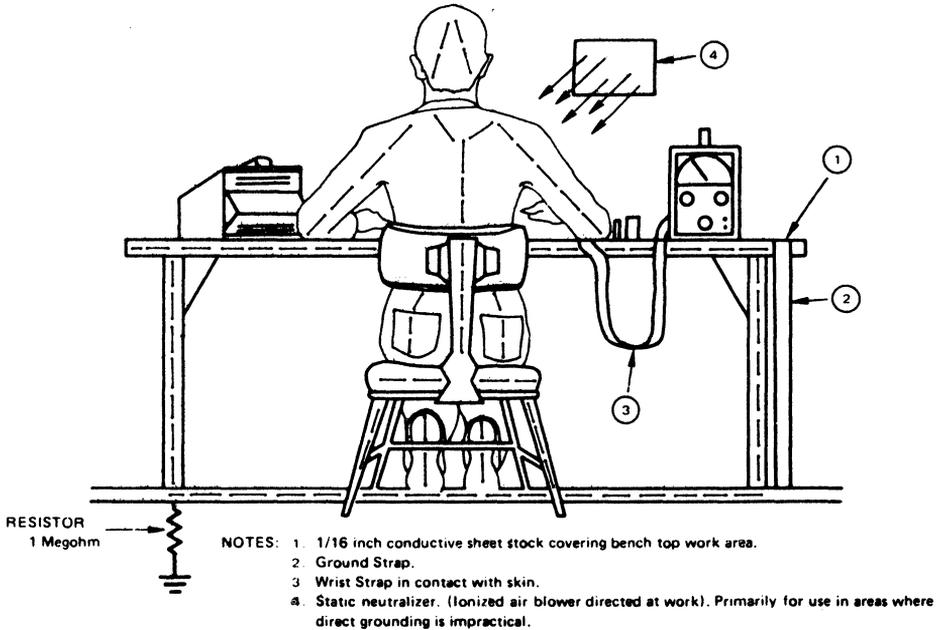

Figure 9.1. Typical Manufacturing Work Station
2. IC's should be placed on a grounded bench surface and operators should ground themselves prior to handling devices. Since a worker can be statically charged with respect to the bench surface, wrist straps in contact with skin are strongly recommended. See Figure 9-1.